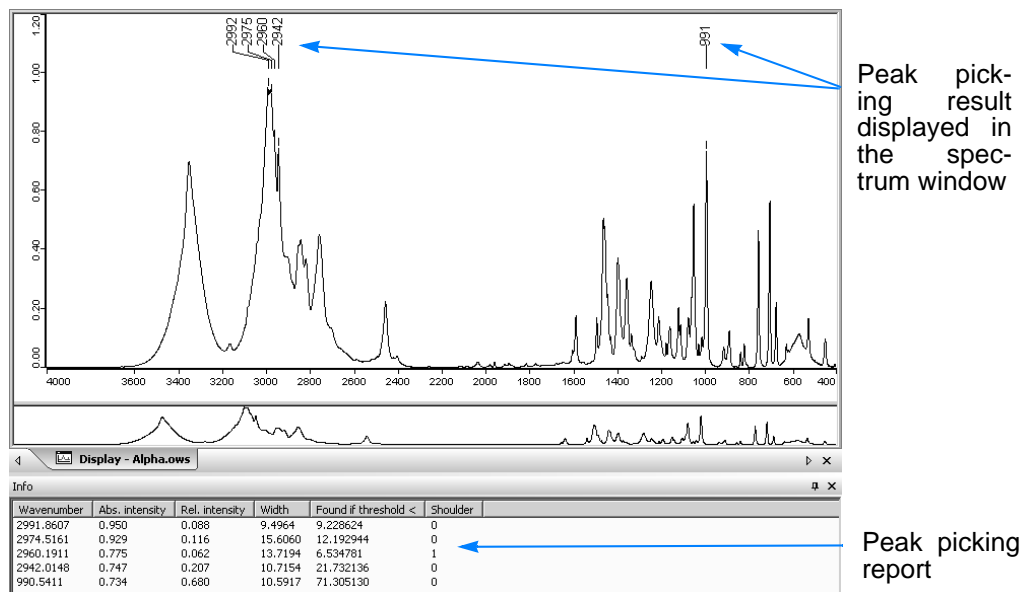

Figure 46: Peak picking report
- 4 Alternatively, you can view the peak picking result in form of a report. The report is displayed below the spectrum window. See figure 46. For information about the permanent display of the information view, refer to chapter 1, section 1.15.